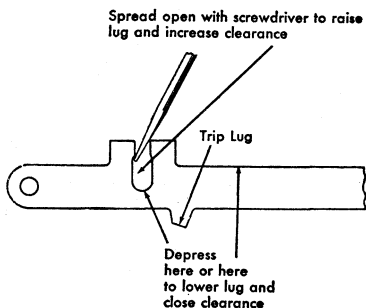

Figure 7. Individual Key Lever Adjustment
2. INDIVIDUAL KEY LEVERS which do not respond with the majority of the key levers may be treated as illustrated in Figure 7.